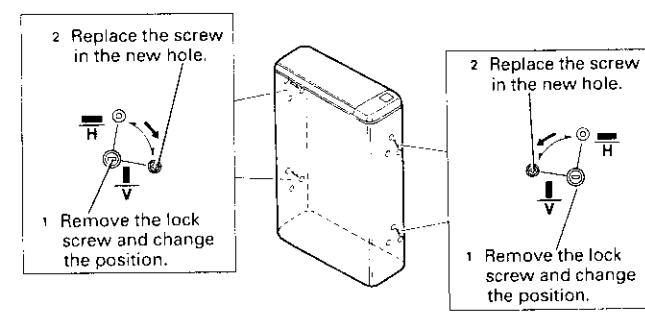

Fig. 6
- Change the positions of all four springs by turning the mounting orientation selectors to V (vertical) with a small flat-bladed screwdriver, as shown in ① of Fig. 6.
- Replace the removed screws (2.6 x 4 mm) in the screw holes for V, as shown in ② of Fig. 6.